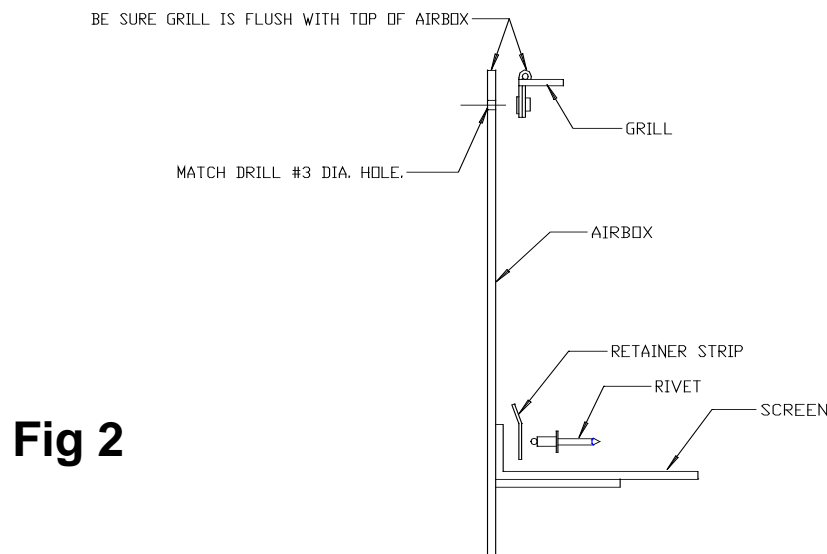

Fig 2
- Step 3. Install Aluminum retainer strips BA-8602, BA-8603, and BA-8604 with crease to cover screen ends (Fig. 2).
- Step 5. Fit grill BA-8606 with nutcert tabs (inside airbox) flush with edge of airbox. Match drill 4 holes (#3 diameter) for grill screws (Fig. 2)